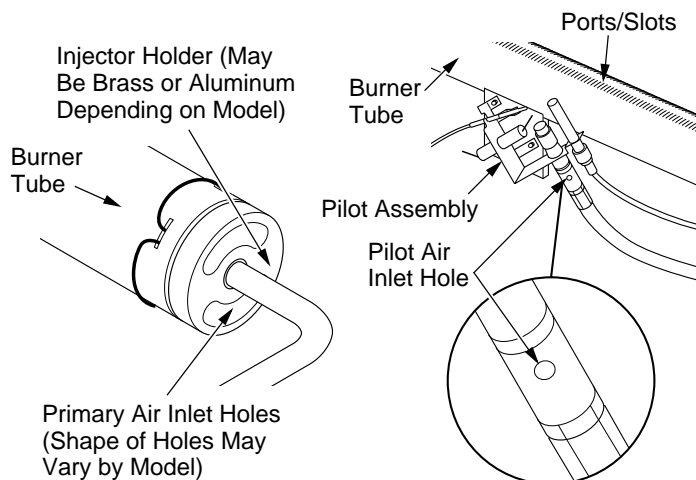

Figure 38 - Injector Holder On Burner Tube **Figure 39 - Pilot Inlet Air Hole**
2. Inspect burner, pilot, and primary air inlet holes on injector holder for dust and dirt (see Figures 38 and 39).